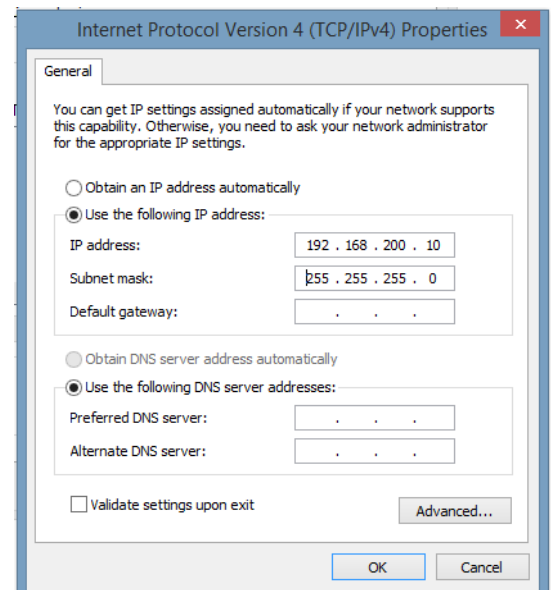

Fig. 2-14, Internet Protocol (TCP/IP) Properties Screen, Windows® 10
7. The Internet Protocol (TCP/IP) Properties dialog box will open (**Fig. 2-14**). Select "Use the following IP address". Enter the values as shown (i.e. IP address 192.168.100.2 and subnet mask 255.255.255.0). Record the existing IP address and subnet mask in order to later return the computer to its original state.